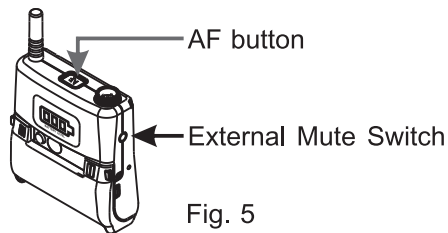

Fig. 5
(E) Mute Mode Setting, Fig. 5:
- (1) Press AF button to activate mute mode and the indicator dims. All the operations are the same as default mode.
- (2) Press AF button again to deactivate the mute mode and the indicator is lit.
(F) External Mute Switch connector, Fig. 5: